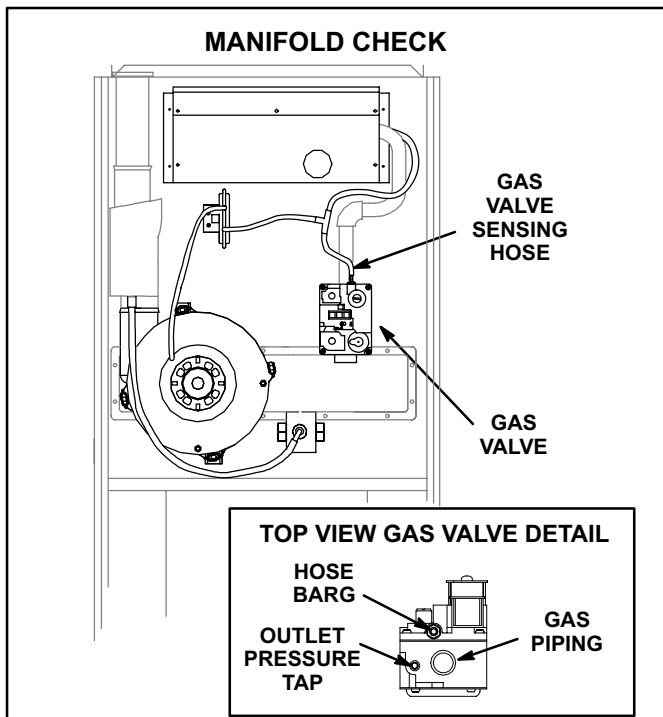

FIGURE 46
- 2 - Disconnect pressure sensing hose from gas valve and plug hose. Leave hose barb on valve open to atmosphere. See figure 46.